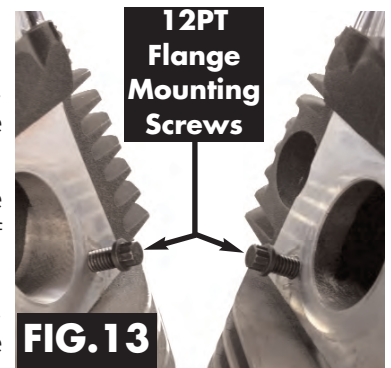

FIG. 13
O. Apply two drops of blue Loctite to the threads of all 4 flange mounting screws JIMS No.5274 (supplied). Thread in only two screws into the lower holes on the bottom side of front and rear intake port. Only thread both screws halfway in at this time. **See Fig 13.**